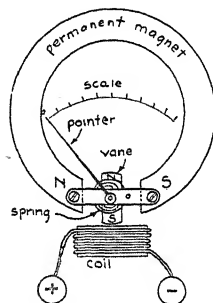

FIG. 93. The moving-vane ammeter.
In the vane-type instrument shown in Figure 93, the coil carries the current to be measured (amperes). This current causes a flux, which distorts the flux in the gap, angling it around a little. The vane, also being magnetized, adjusts to the new flux, thus moving the pointer over the scale.
**97. The Construction of a Voltmeter.** Voltmeters are similar to ammeters. The only great difference between the two is in the kind of coil windings. Ammeters have a few turns of large wire on the coil; voltmeters have many turns of fine wire on the coil. Otherwise, their details and types are quite alike. The views in Figures 93 and 94 also would serve to show how "vane-type" and "coil-type" voltmeters look.